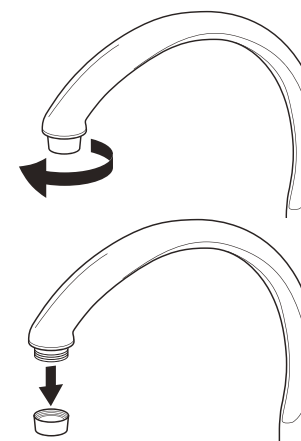

Figure 3.2 – Removing Aerator from Faucet
2. Unscrew and remove the aerator (wire screen) from your kitchen faucet (see Figure 3.2). This should expose the threads on your kitchen faucet for connecting the adaptor.